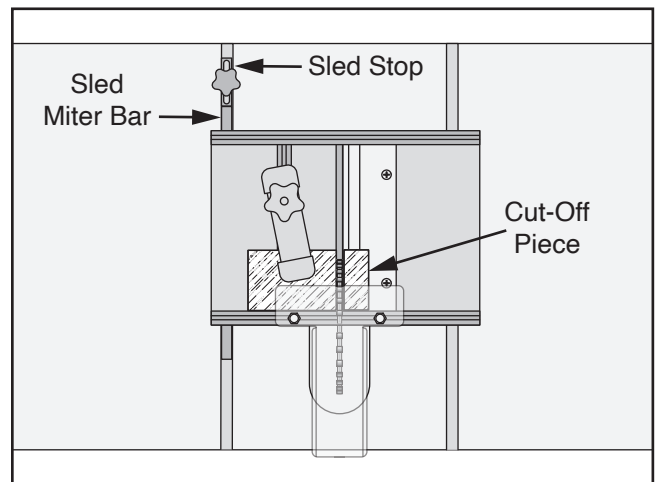

**Figure 19.** Workpiece prepared for cut.
2. Place workpiece in sled against rear fence and align cut line with blade kerf opening in sled, then secure workpiece with hold-down clamp (see **Figure 19**).